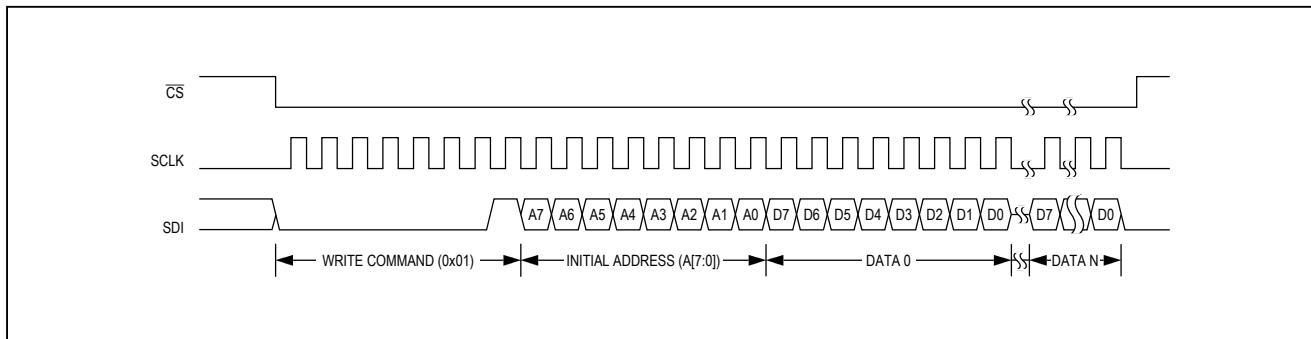

Figure 3. SPI Write Command Format
**Write:** The write command (0x01) is used to program the MAX7057 registers (see Tables 2 and 3). The format shown in Figure 3 must be followed, allowing all the registers to be programmed within one CS cycle.